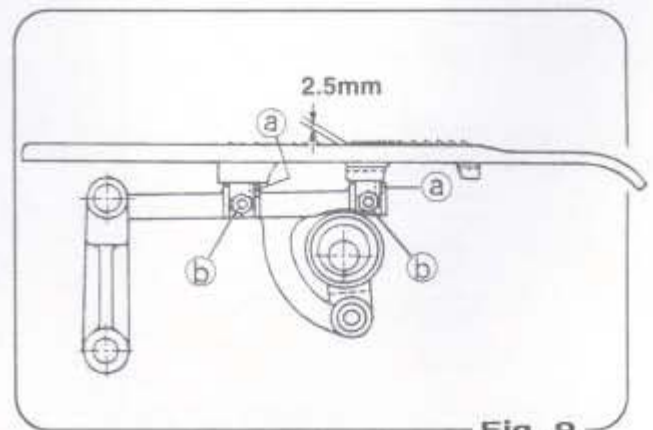

Fig. 9
- Adjust the height of the feed dog so that it protrudes 2.5mm from the upper surface of the throat plate when the feed dog has risen to the highest position, as shown in (Fig.9). If the feed dog is higher than this, stitch will not chain satisfactorily, and if it is lower than this, the stitch width will be too small. Slacken nut (b) with a box spanner to adjust the height of the Feed Dog. It is important to adjust the height with set screw (a) to ensure that the pressure from the Pressure Foot should not force it back down. Tighten nut (b) when the adjustment is correct.
- 送料齿(前)到最高位时，测查送料齿在针板面上高度，必须2.5mm如(图9)所示。请将调节螺钉(a)拧左右而调为送料齿2.5mm高于针板上面。调整结束用筒板子拧紧螺母(b)固定送料齿。